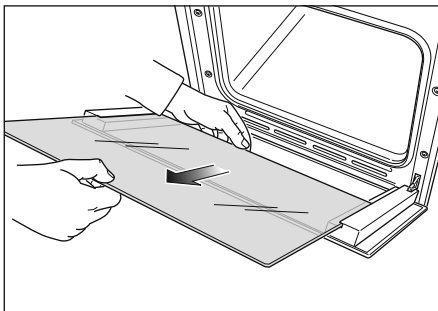

Fig. 35e
- Gently pull out the inner pane of glass (Fig. 35e).